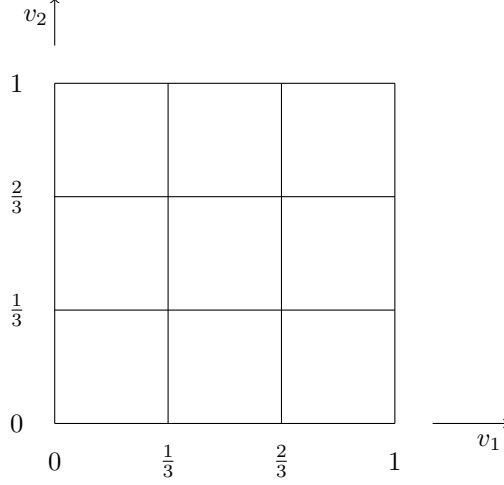

FIGURE 2. Parameter Space
2. Insert enough knots to get nine uniform B  zier elements in parameter space (Figure 2)